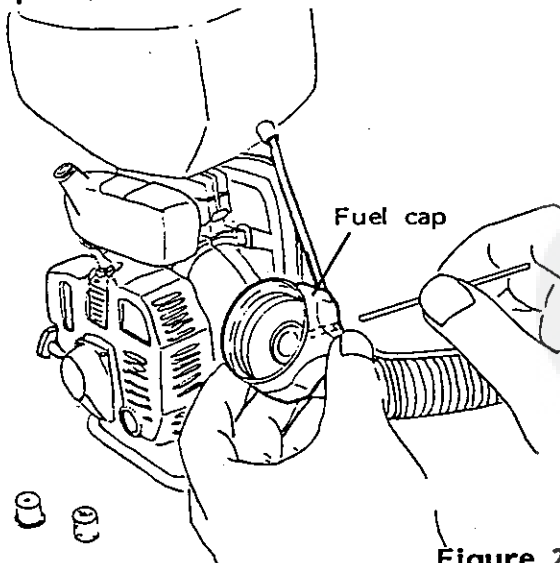

Figure 24
1. Check fuel cap vent and clean with a fine piece of wire if it is clogged. (Figure 24)